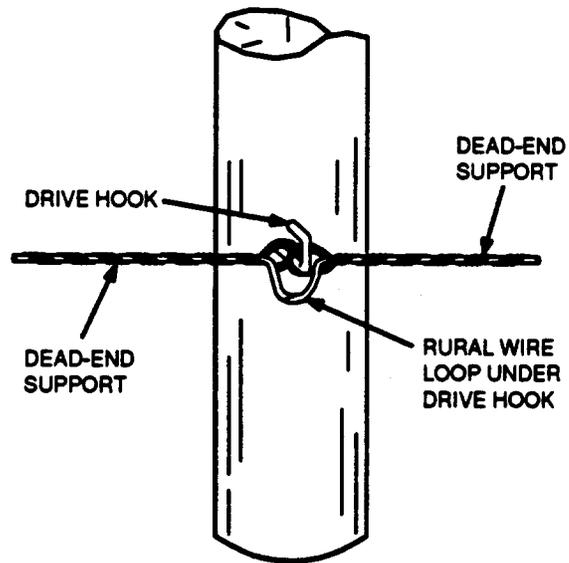

Figure 7. Dead-End Wire in Both Directions
6.05 Where attachments are made to poles adjacent to road crossings, C rural wire shall be dead ended in both directions, as illustrated in Figure 7.